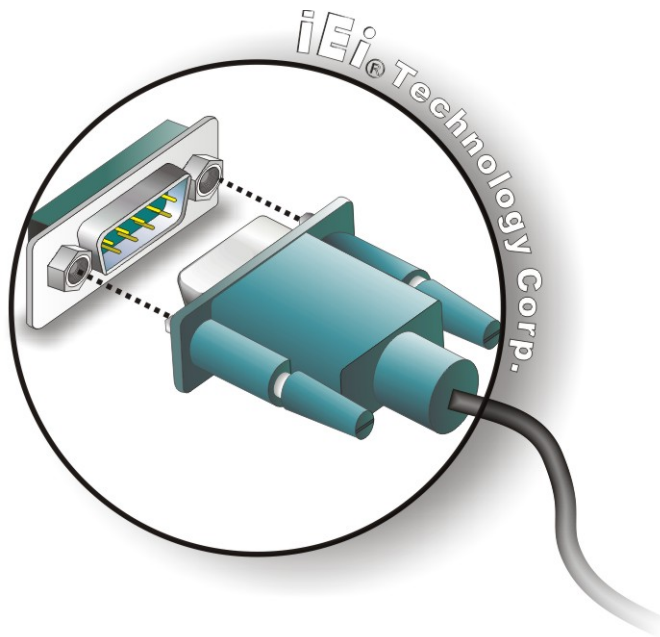

Figure 4-15: Serial Device Connector
Step 2: **Insert the serial connector.** Insert the DB-9 connector of a serial device into the DB-9 connector on the external peripheral interface. See Figure 4-15.